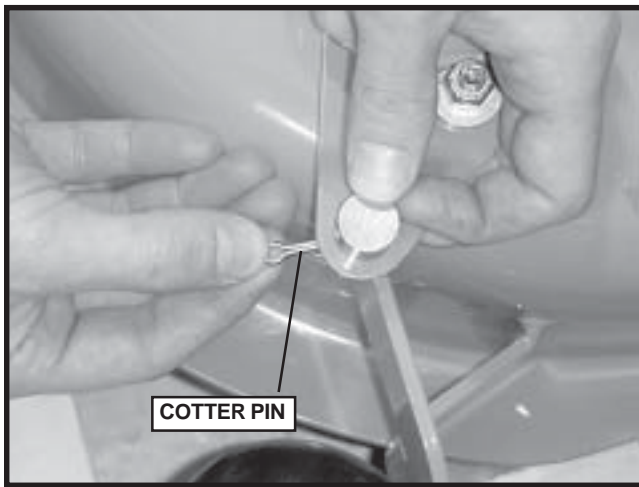

**FIGURE 17**
3. Using a straight edge screwdriver remove the e-ring on the bottom side of the swivel. See Figures 17 and 18.